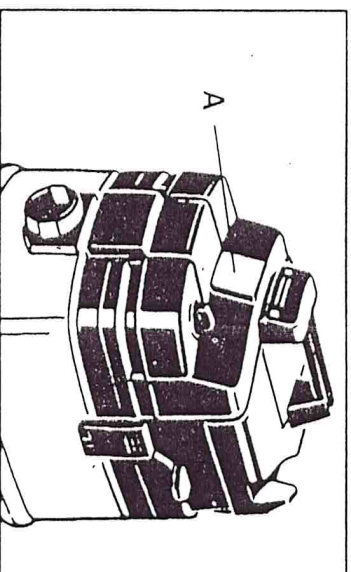

Fig. 5
An Accessory Outlet is located under the hinged cover (A) Fig. 5, on the front of the Vacuum Cleaner. Lift this cover to expose the outlet.
A brush-type skirt (A) Fig. 5, surrounds the abrasive pad. This skirt serves two purposes: (1) The skirt extends below the surface of the abrasive pad so that it contacts the work surface first. This positions the sanding head parallel to the work surface before the abrasive contacts the work, preventing the abrasive from "gouging" the work. (2) The skirt also helps contain the drywall dust until the vacuum cleaner pulls it away.